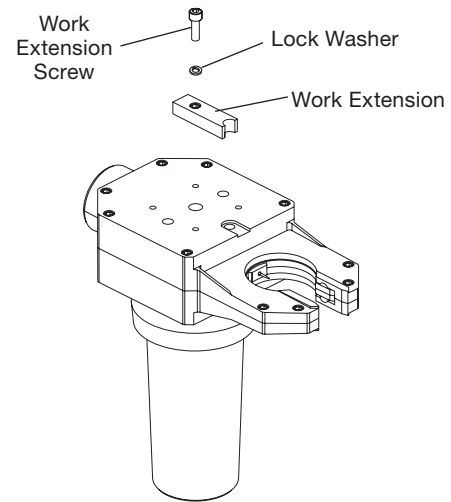

Figure 25 Removing the Work Extension
3. Remove the work extension screw with lock washer, and the work extension. Inspect the work extension for pitting, wear, or damage. See Figure 25.